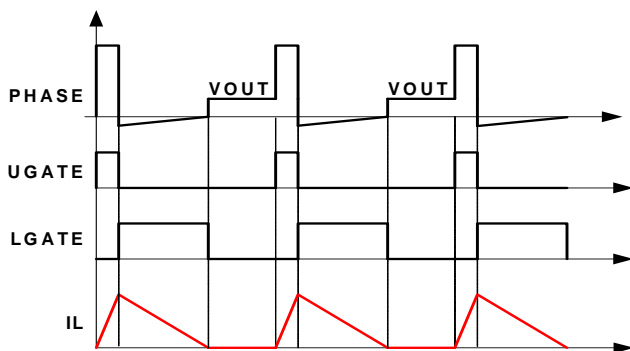

FIGURE 13. DIODE EMULATION
The ISL95813 can operate in diode emulation (DE) mode to improve light load efficiency. In DE mode, the low-side MOSFET conducts only when the current is flowing from source to drain and does not allow reverse current, emulating a diode like a standard buck regulator. As Figure 13 shows, when LGATE is on, the low-side MOSFET conducts, creating negative voltage on the phase node due to the voltage drop across the ON-resistance. The controller monitors the current through monitoring the phase node voltage. It